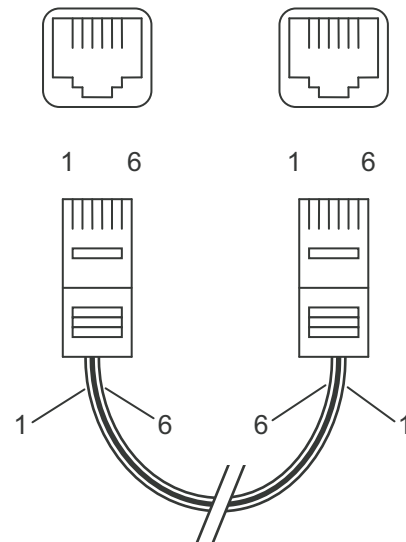

Figure 1: Modular cable, cross wired
- Two 6 pole modular communication cables (RJ12, cross wired; see figure 1) to connect the Masterlink MICC to the Mass Sinus inverter and the Mass charger.